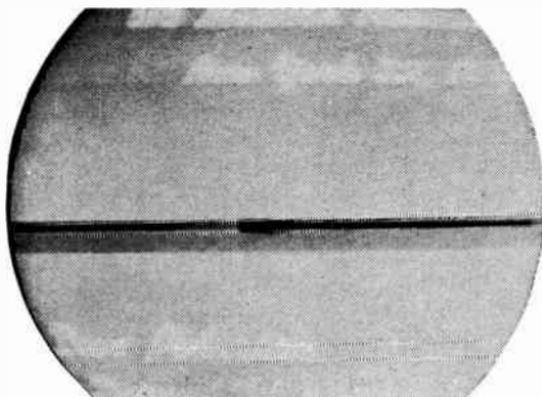

Fig. 5-S. *Blanking bar showing sync pulse.*
**SERVICE:** To check normal sync pulses, permit pix to roll slowly down and examine vertical blanking bar. Reduce contrast and increase brightness. This will make the different levels of the bar stand out. There must be a distinct difference in shading between sync pulses, blanking and pix information. Sync pulses should be darker than the blanking bar and the blanking bar should be darker than the pix. See Fig. 5-S.